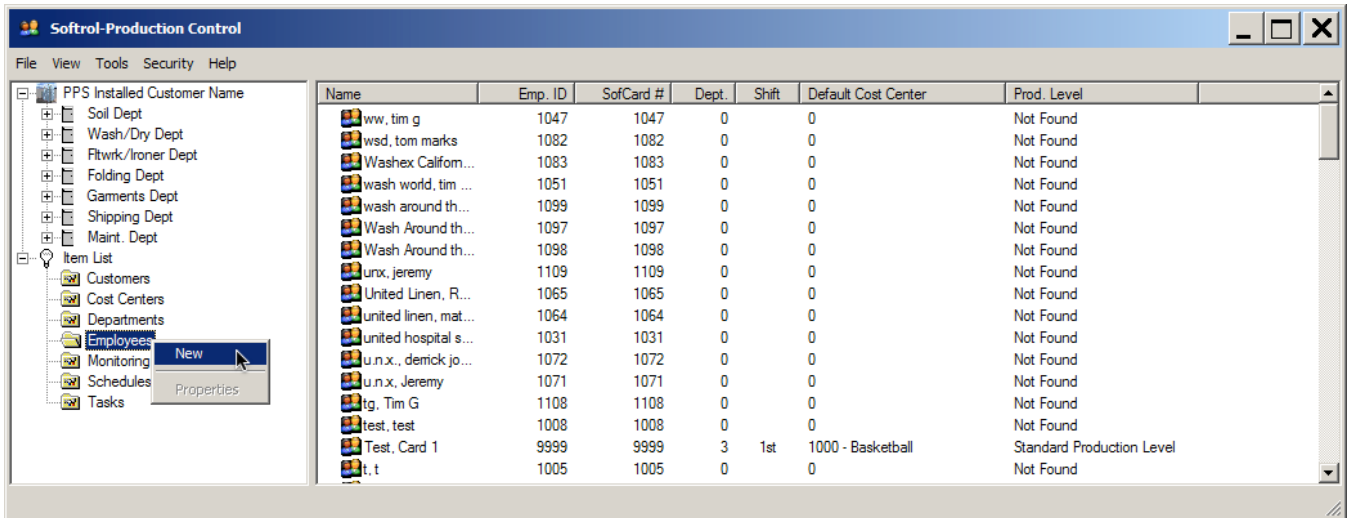

Figure 27. Setup: New Employee.
2. Right-click and select **New** (See Figure 27) to open the *Employee Details* dialog.